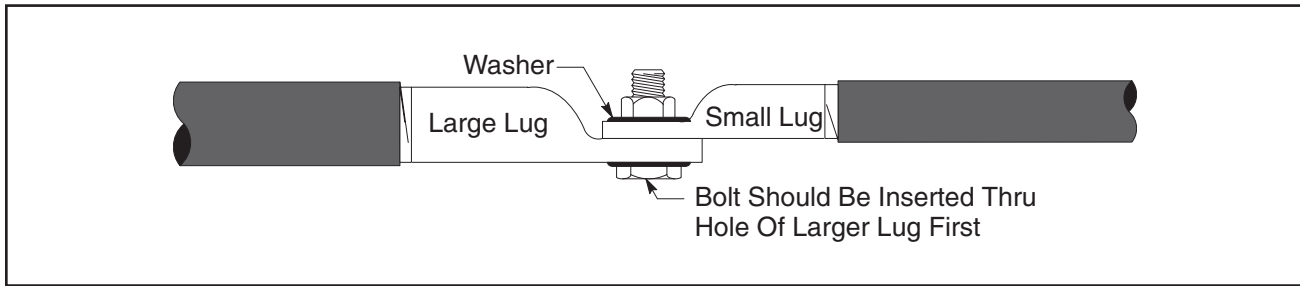

Figure 3
- 3.4 Remove silicone grease from lugs. Bolt lugs together (see *Table 1* for maximum bolt length). See *Figure 3* for proper lug/bolt arrangement.